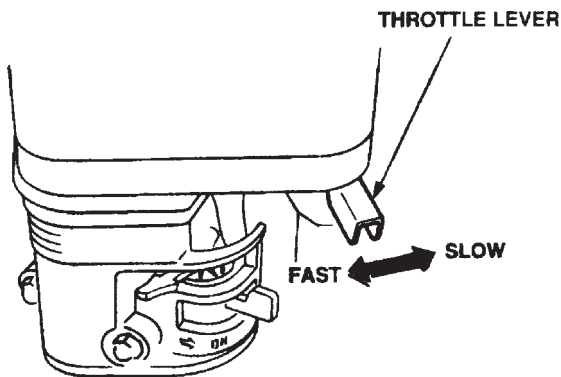

Figure 15. Throttle Lever
- Rotate the **throttle lever** (Figure 15) halfway between **fast** and **slow** for starting. All sawing is done at **full throttle**. The engine governor speed is factory set to ensure optimum blade operating speeds.
- Start the engine. Rotate the throttle lever (Figure 15) toward full throttle.